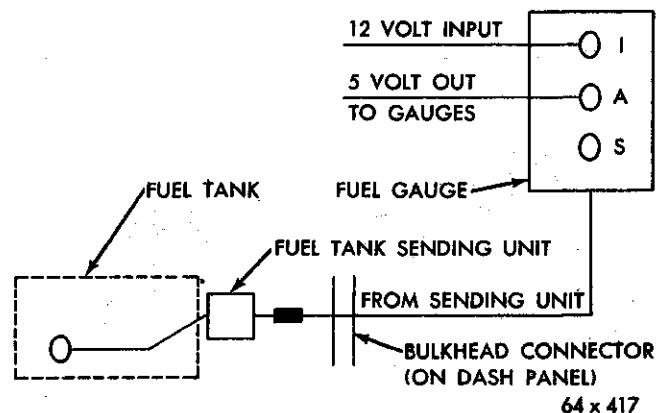

Fig. 1—Fuel Level Indicating System
2. FUEL LEVEL INDICATING SYSTEM (Fig. 1)